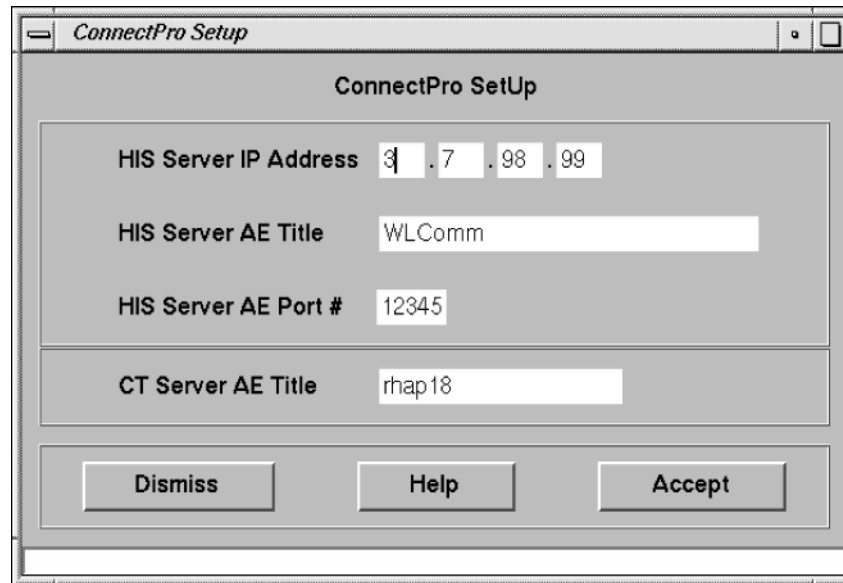

Figure 8-7 ConnectPro Setup Screen
- the console displays the ConnectPro Setup window as shown in Figure 8-7.